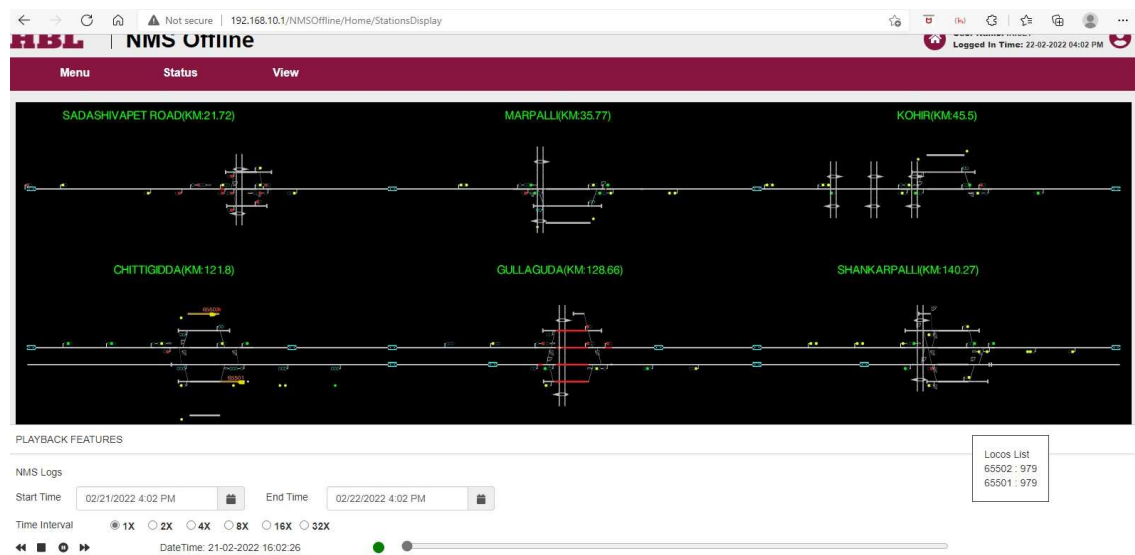

Fig. 10 Playback screen
3. Using log selection option the start & end time are selected depending upon the requirement and when play button is selected screen will go to the previous time & events will start to play on the screen as shown in fig 10 .